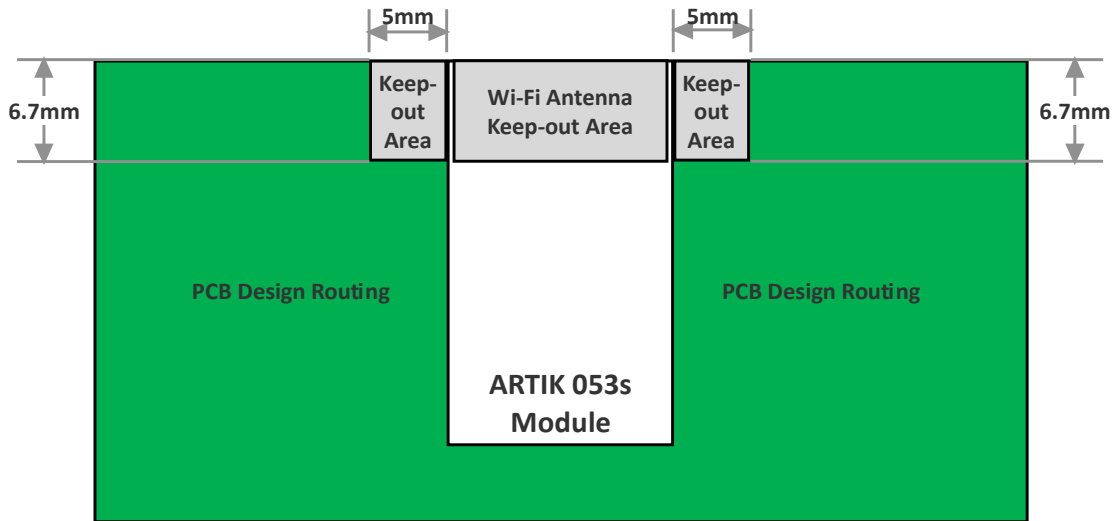

Figure 6. Module Placement Restrictions
- To avoid severe Wi-Fi radiation loss, Samsung Semiconductor, Inc. strongly recommends allocating a “No PCB Routing or Power Planes” metal-free area of 5×6.7mm (all layers) next to the on-module antenna, as shown in Figure 6.